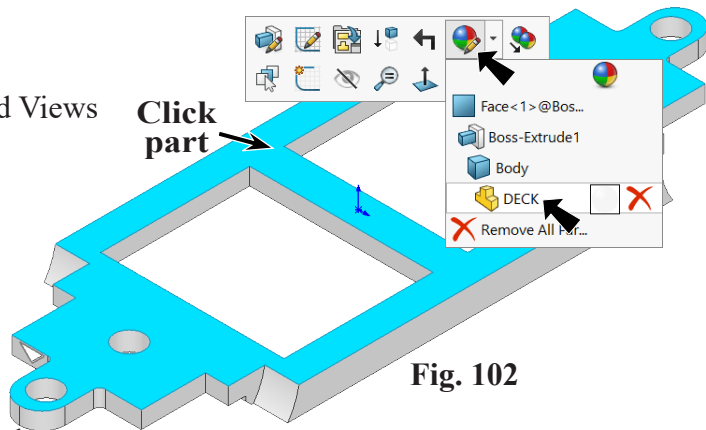

Fig. 102
Step 2. Click part, click **Appearance Call-out**  on the context toolbar and click **DECK** , Fig. 102.